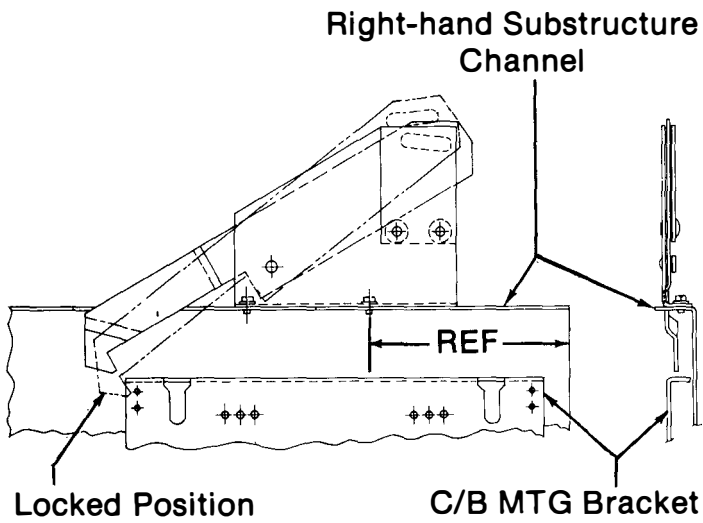

Fig. 2 Typical installation.
The padlock assembly engages with the breaker mounting bracket in the substructure, as shown in Fig. 2. This prevents the breaker from being moved from the DISCONNECTED to the TEST or CONNECTED positions. The padlock slot will accept three (3), $\frac{3}{8}$ inch diameter hasps.